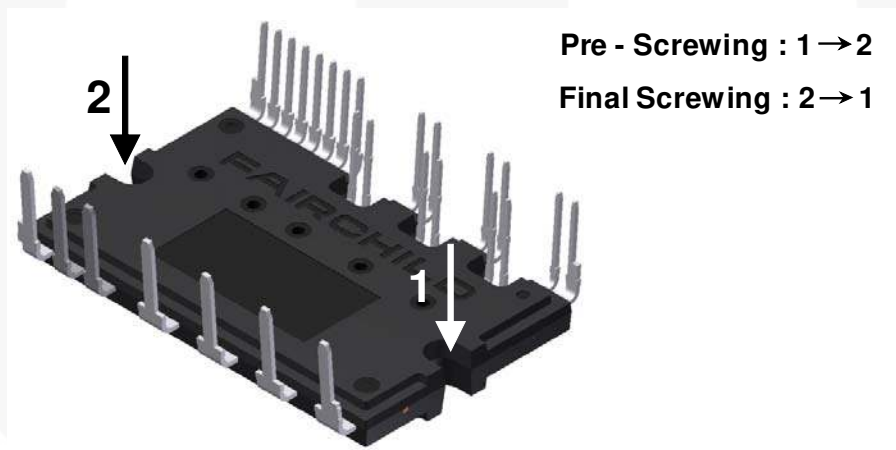

Figure 9. Mounting Screws Torque Order
- 11. Avoid one-sided tightening stress. Figure 9 shows the recommended torque order for mounting screws. Uneven mounting can cause the DBC substrate of package to be damaged. The pre-screwing torque is set to 20 ~ 30% of maximum torque rating.